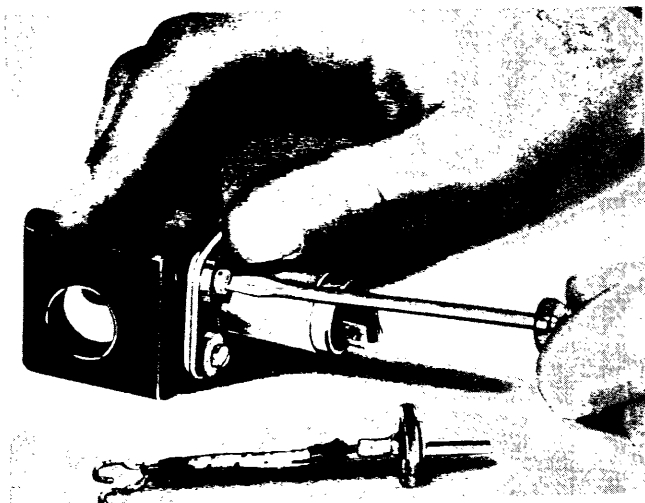

Figure 105H
5. Remove the reticle mount by unscrewing the two screws which pass through the metal reticle slide spacer and hold the reticle carriage to the sleeve spacer. (See figure 105H.)